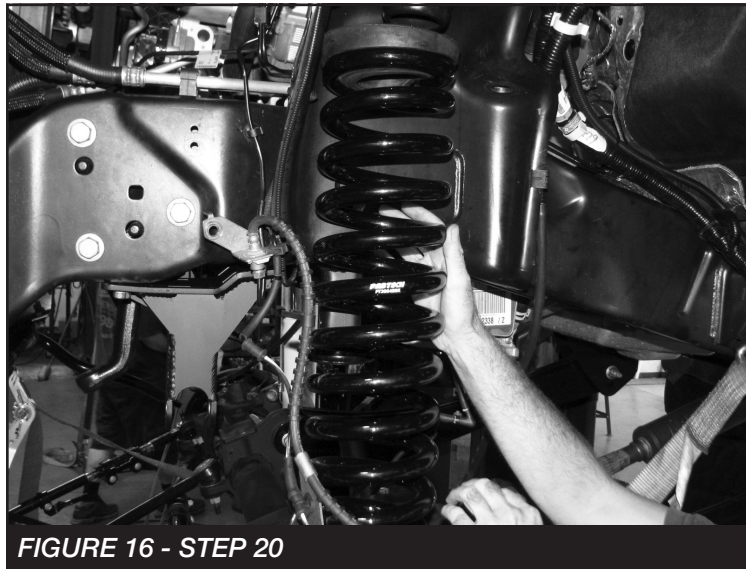

FIGURE 16 - STEP 20
20. Install FT30123BK (Coil Spring) using the factory upper isolator. **SEE FIGURE 16**